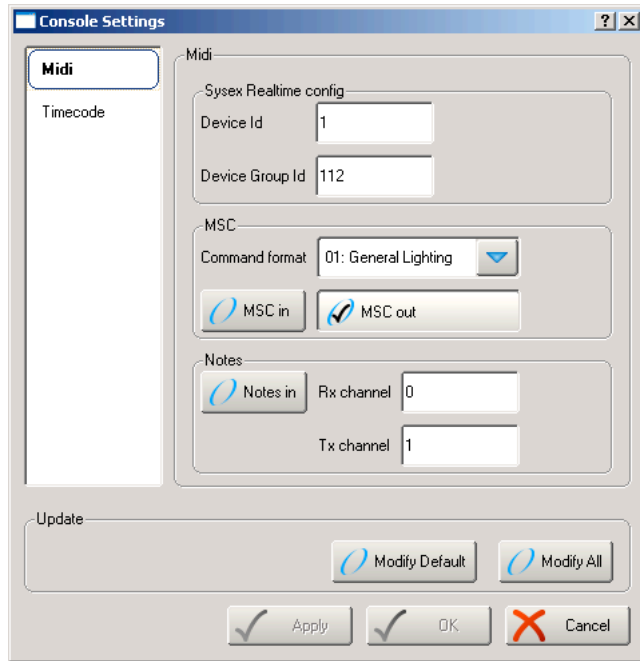

Figure 28.3. The MIDI pane of the Console Settings window
4. Settings : open the Settings window; see *Figure 28.3, "The MIDI pane of the Console Settings window"*.